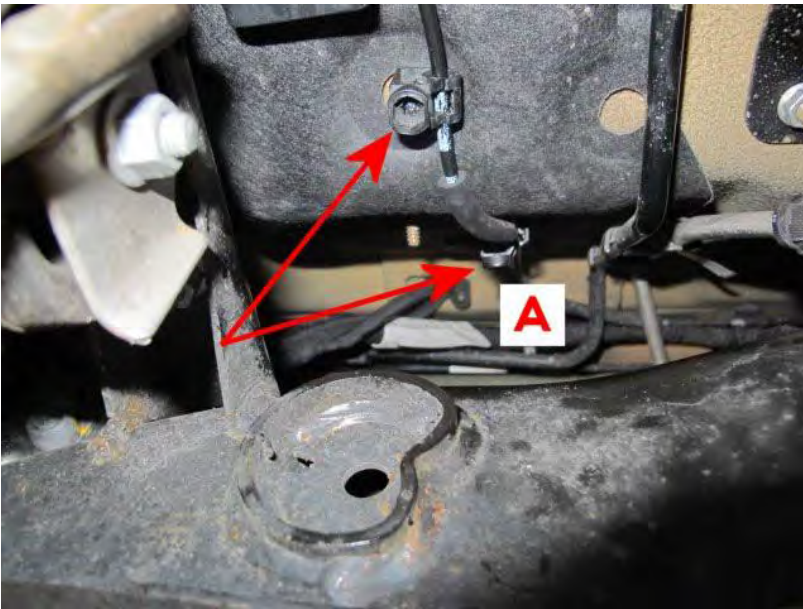

Figure 12
- Referring to Figure 12 - Taking care not to damage the pipe and clip, remove the air suspension pipe from the clips x2